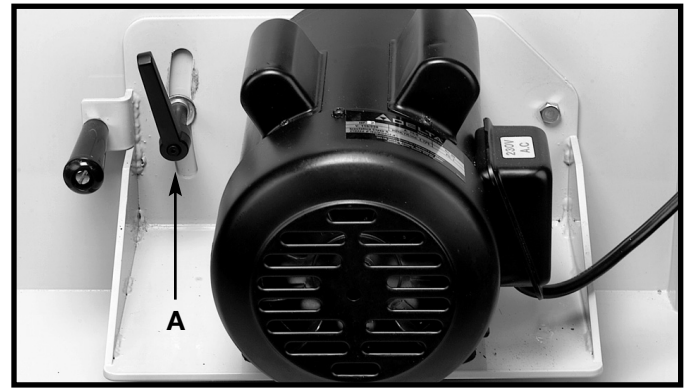

Fig. 28A
If it becomes necessary to adjust the belt tension on the machine, turn the motor release handle (A) Fig. 28A counter-clockwise. Lower or raise the motor, and when adjustment is complete, tighten the motor release handle (A).